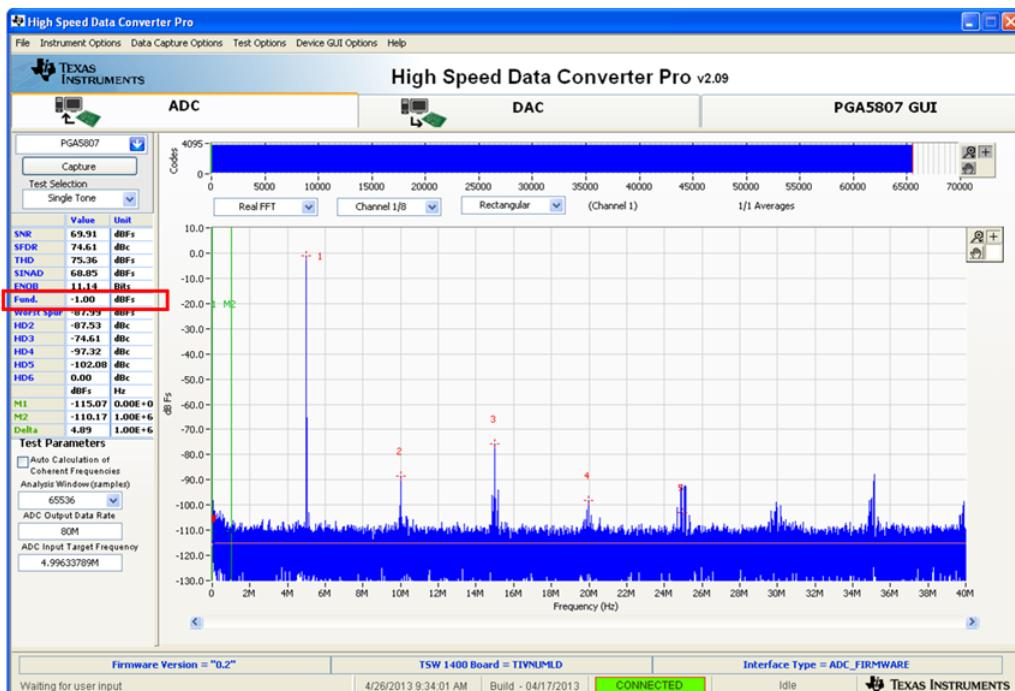

Figure 42. ADS5296A Only Sinusoidal Capture 1
- The plot will update as shown in Figure 42. Take note of the *Fund.* value in the left panel highlighted in RED in Figure 42. This value is dependent on the signal level set on the signal generator feeding the input signal to J36. It also depends on cable loss and filter insertion loss which can vary among parts. If needed, reset the signal amplitude (level) until the *Fund.* value is approximately –1.0 dBFs, as this is the condition for which the datasheet specifications are set. The input level was iteratively adjusted to achieve –1.0 dBFs as seen in Figure 42.